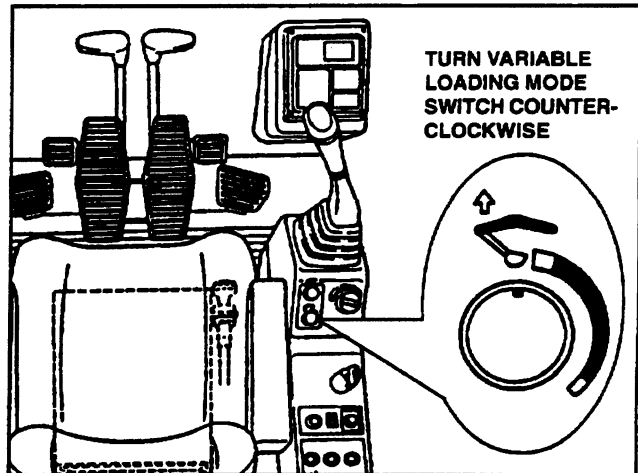

FIGURE 6.32
20. Return the Variable Loading Mode Switch back to the Left Limit by turning switch counter-clockwise. See Figure 6.32.